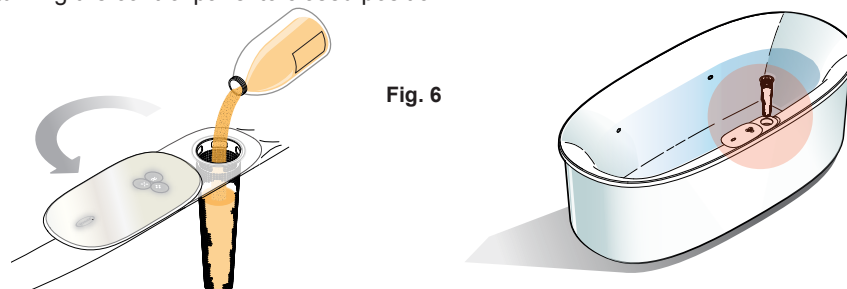

Fig. 6
- 3** Apply the grease included in the drain alignment kit to the end of the brass tailpiece. Carefully team lift the bathtub while a third person removes and discards the material that was supporting the feet (Fig. 6). Carefully lower the tub in the same position down into the drain alignment kit, using caution to avoid damage to the brass tailpiece.
- 3 Salts can be added before or during the Swirlpool™ function, before starting the waterfall. To add, rotate the display toward the inside of the tub as shown (Fig. 6). Check that the strainer basket is in the infuser, and pour 8-9 oz. (1 container) of Epsom Salt inside before returning the control panel to closed position.